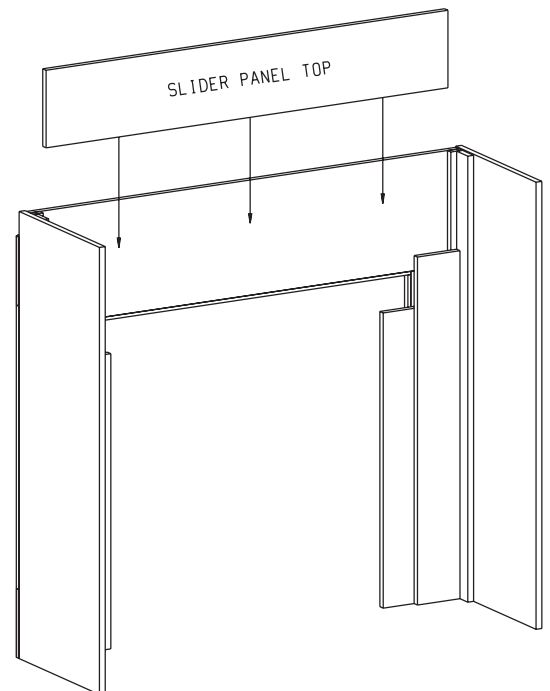

Figure 3
6. Insert slider panel top into pocket slot (See Figure 3)